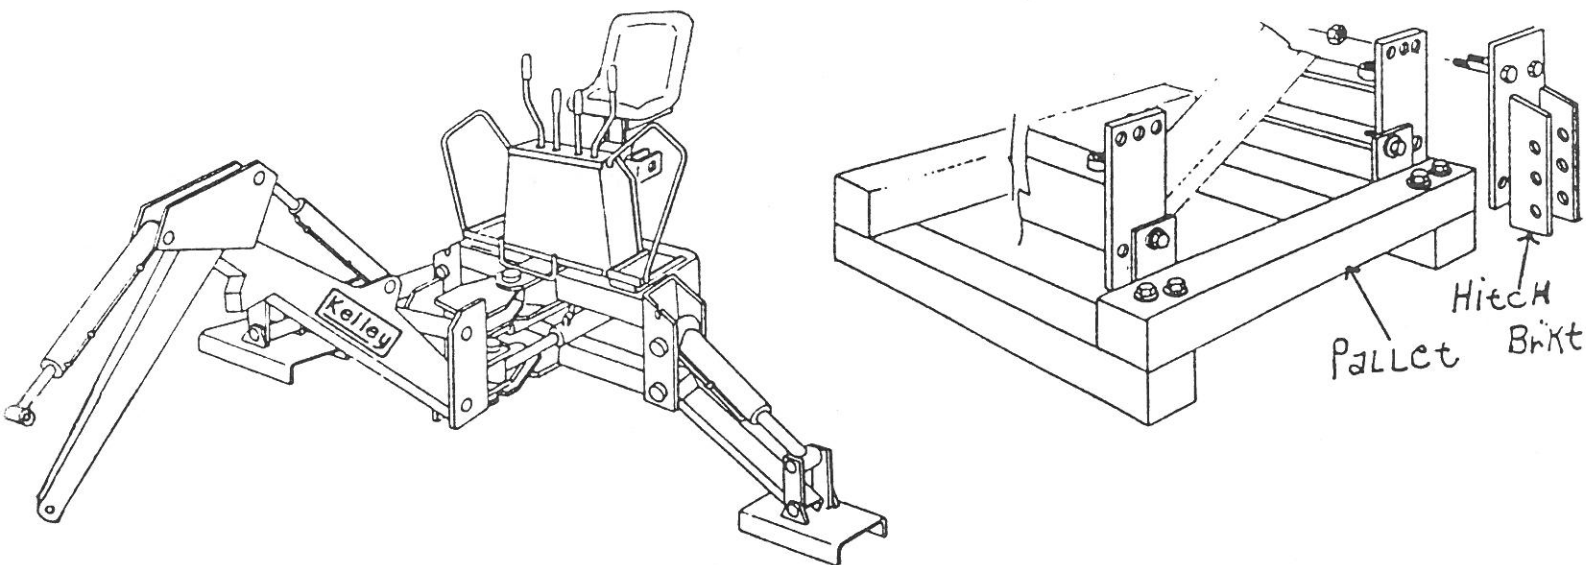

FIGURE 6
8. Extend boom, dipper stick and stabilizers until they contract with the ground. Remove shipping pallet. FIGURE 6